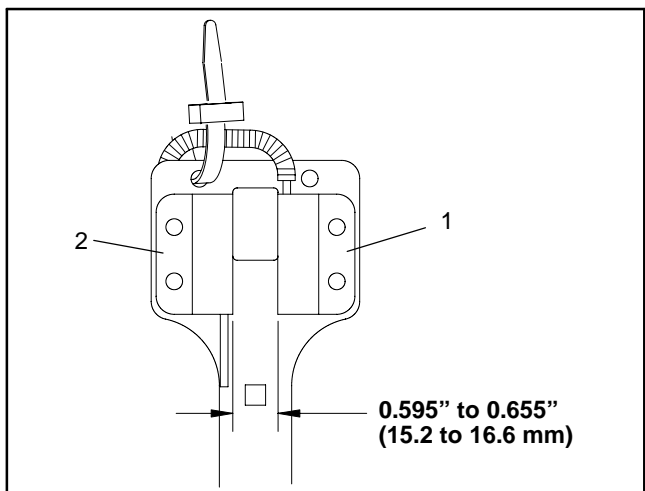

Figure 10
A. The distance between switches should be from 0.595" to 0.655" (15.2 to 16.6 mm) (Fig. 10).
B. The lever bracket (item 4) should be parallel with the center deck lift/lower lever. If lever bracket adjustment is needed, loosen flange bolts (item 6) and reposition lever bracket.
C. Switch surfaces need to be parallel to each other and also to the switch actuator on center lift/lower lever (item 9). If necessary, switch plate (item 3) can be rotated after loosening flange nut (item 5).